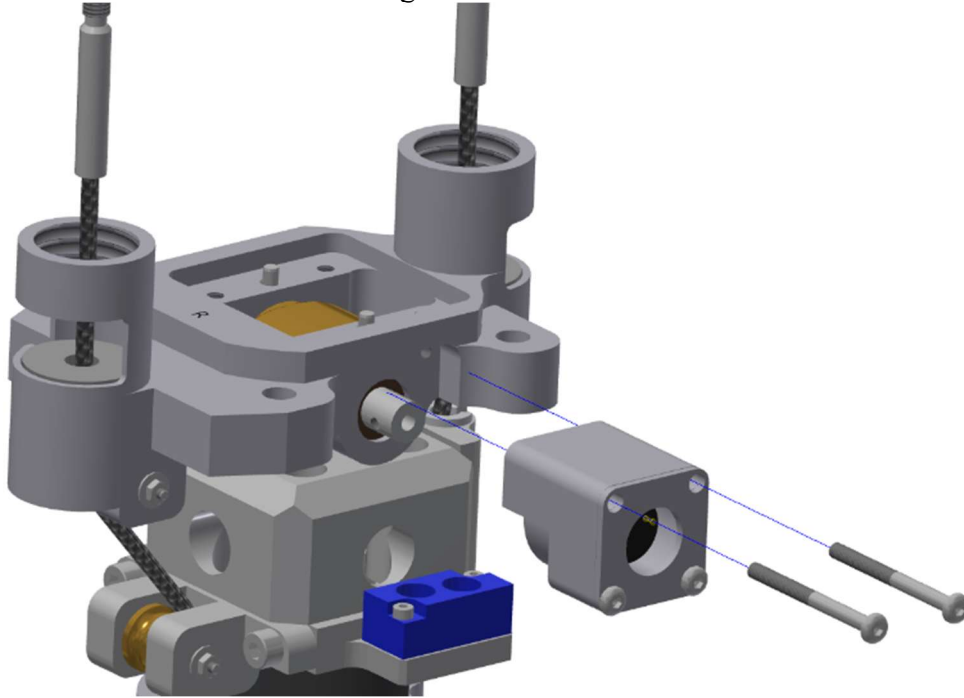
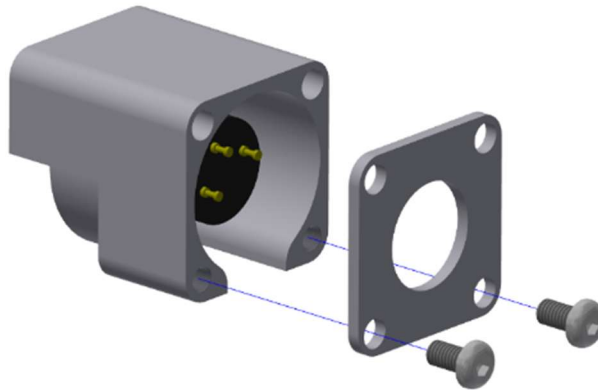
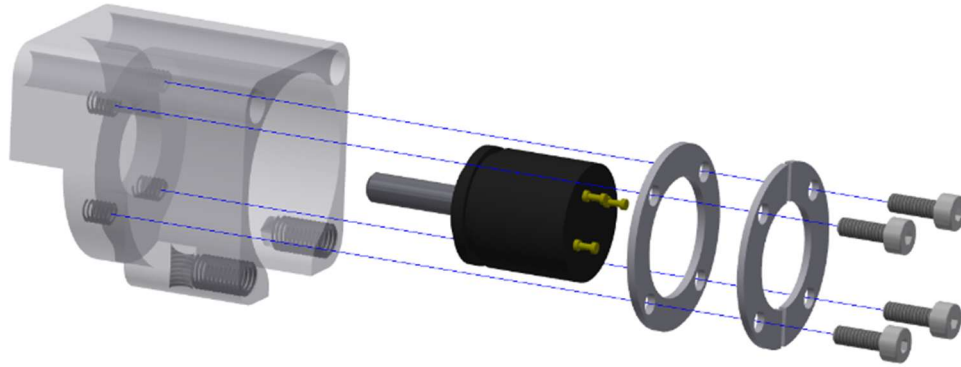

Figure 4-12. Remove the top two M3 X 0.5 X 35 LG. BHCS SS from the OC potentiometer housing
Figure 4-13. Remove the bottom two M3 X 0.5 X 6 LG. BHCS from the OC pot housing
Figure 4-14. Remove the four M2 X 0.4 X 6 LG. SHCS from the rotary potentiometer clamp (474-2020)
- 4.2.6 Remove the top two M3 X 0.5 X 35 LG. BHCS SS from the OC potentiometer housing and remove the OC pot with housing from the neck (Figure 4-12). To disassemble the OC pot, remove the bottom two M3 X 0.5 X 6 LG. BHCS (Figure 4-13). The rotary potentiometer cover (474-2014) can be removed now. Remove the four M2 X 0.4 X 6 LG. SHCS from the rotary potentiometer clamp (474-2020) (Figure 4-14). The rotary potentiometer (SA572-S114) can be removed from the housing.